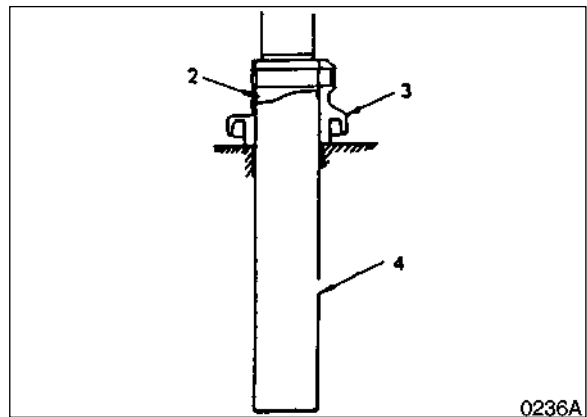

Figure 35
1. Degrease, clean and dry all parts before reassembly. Insert bushing (7, Figure 35) into roller.
2. Apply grease to the O-rings (2, Figure 35) and insert into axle.